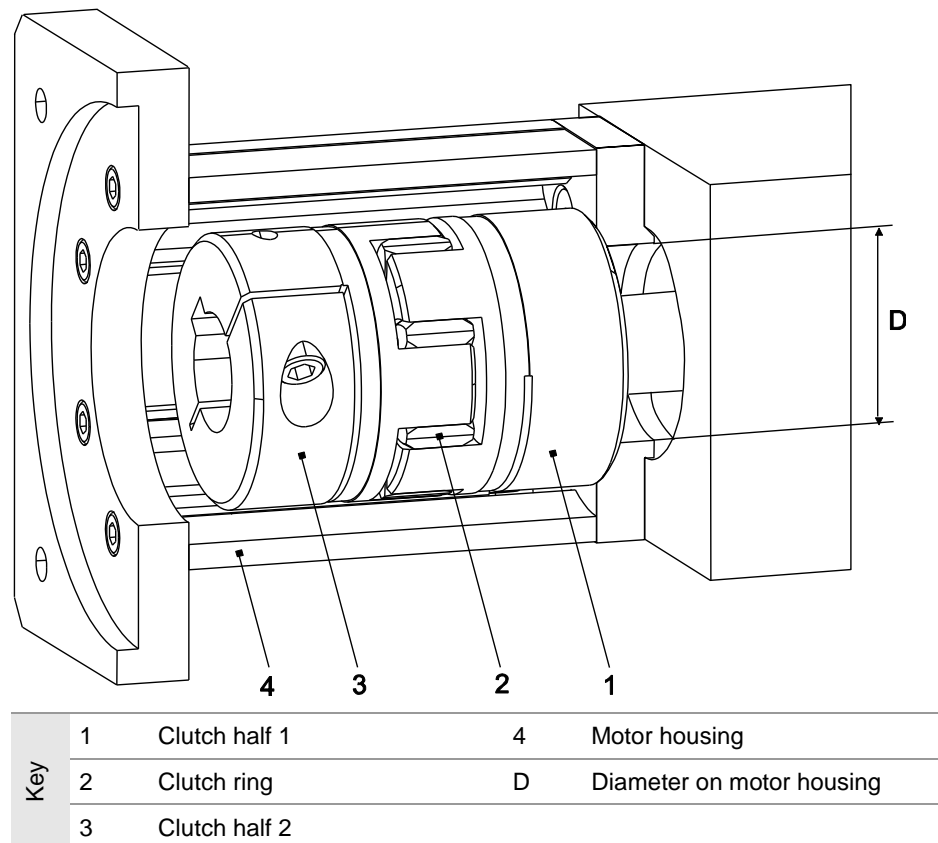

Figure 7 Motor housing with motor clutch on drive pin
3. If the clutch diameter is less than the measure D on the motor housing (4), first mount clutch half 1 (1) (hole flush with drive shaft) and then the motor housing (4) (Figure 7).